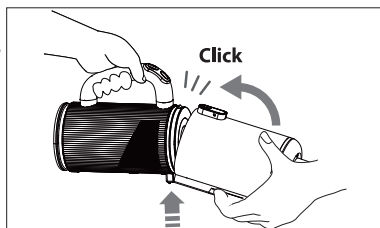

Fig. 22 – Attaching the dust container
- ▶ Carefully push the dust container upwards until you hear it click into place (see Fig. 22).